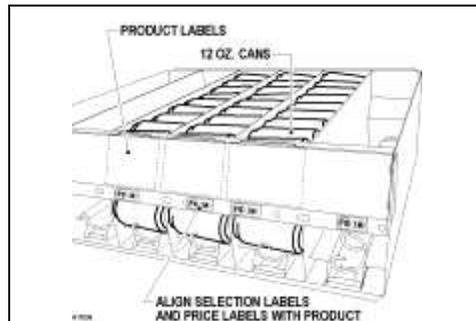

Figure 5d. Loading Dispenser Mechanism
Load product horizontally from front to rear and stack a maximum of three (3) levels high. See Figure 5d.